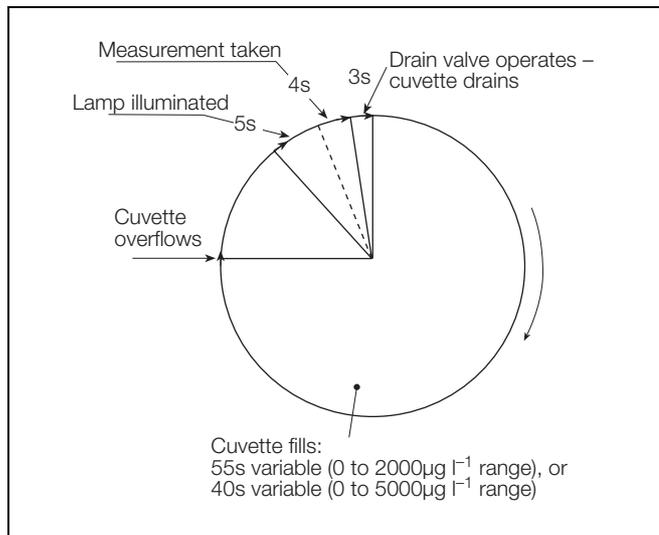

Fig. 4.5 Drain/Fill Sequence
4.5 Optical System – Figs 4.5 and 4.6